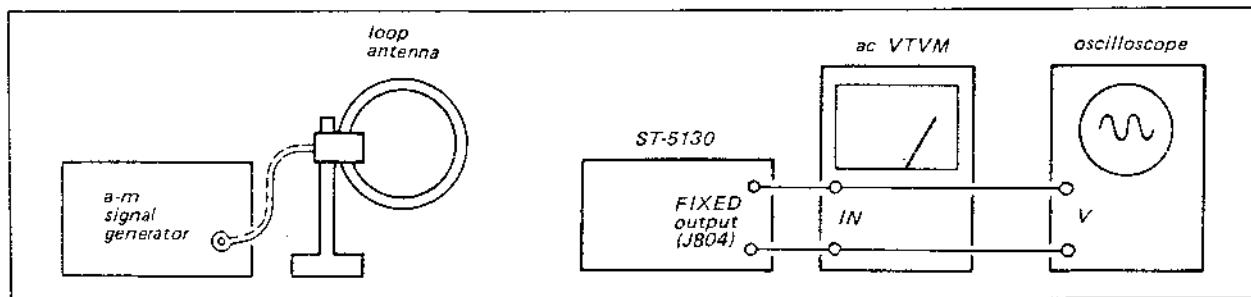

Fig. 3-10. A-m frequency coverage and tracking adjustment
- With the equipment connected as shown in Fig. 3-10, feed a following signal to the AM bar antenna.
Connect the input cable of ac VTVM or oscilloscope to the output jack as shown in Fig. 3-10.
With the equipment connected as shown in Fig. 3-10 follow the procedures given in Table 3-4 when performing this alignment with an a-m signal generator.